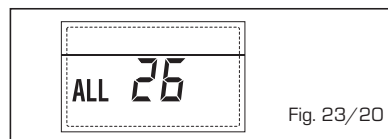

Fig. 23/20
- ANOMALIE COHERENCE APPLICATION SOLAIRE "ALL 27" (fig. 23/21)